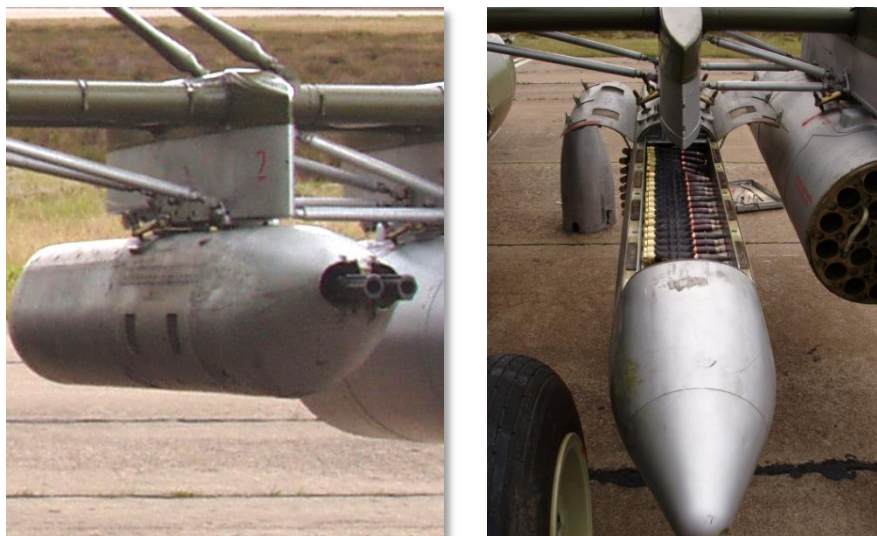

Fig. 11.18. UPK-23-250
- two UPK-23-250 cannon pods equipped with the GSh-23L cannon (Fig. 11.18)